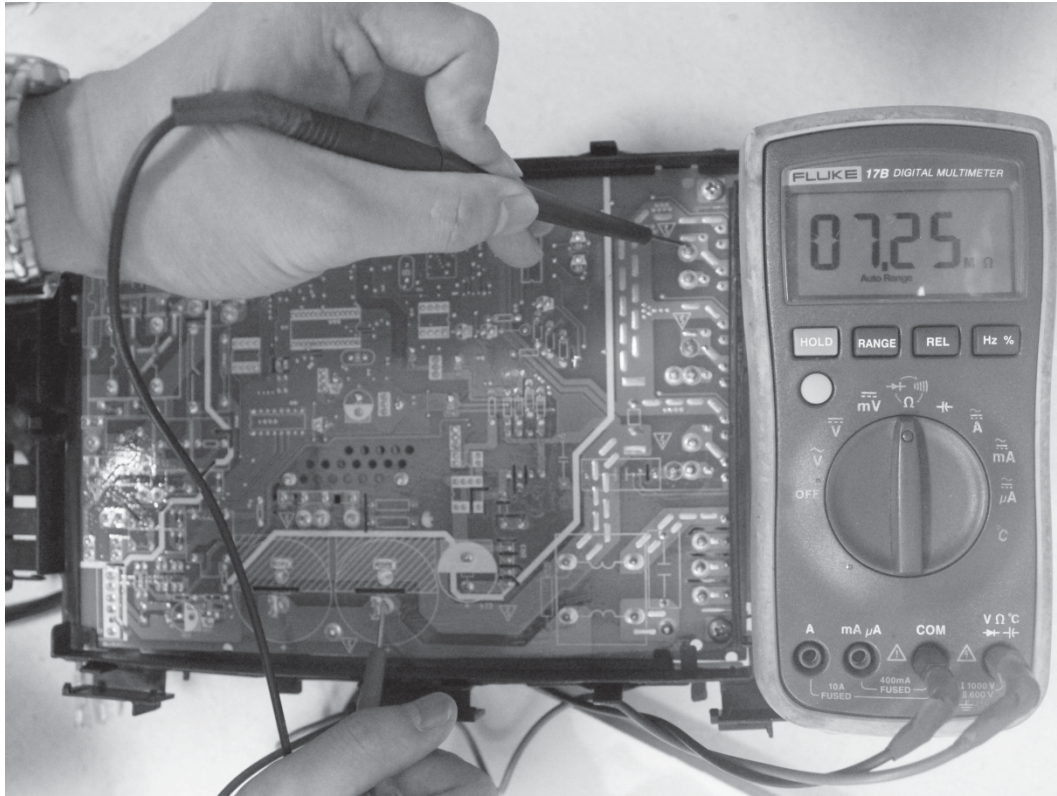

Fig. 21 – P-U
**NOTE:** In figures 21–24 the following is observed: